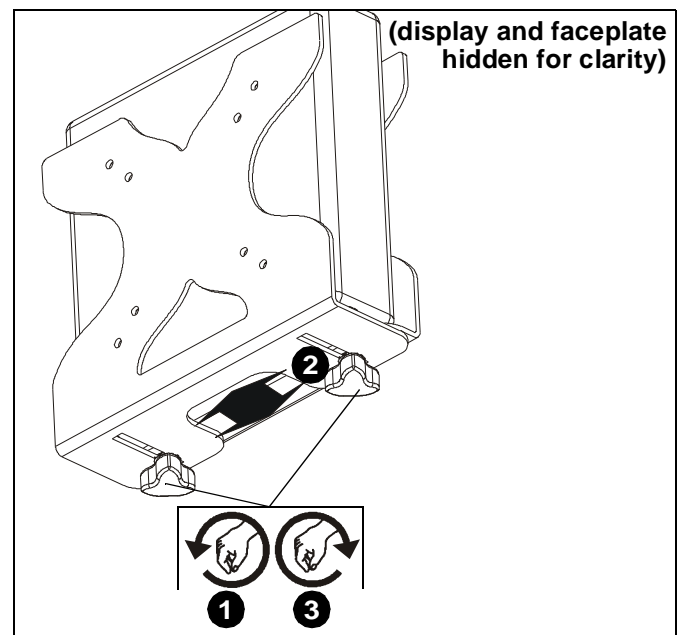

Figure 8
- Loosen two knobs holding KRA234 plates together. (See Figure 8)
- Adjust width to desired width. (See Figure 8)
- Tighten two knobs holding KRA234 plates together. (See Figure 8)